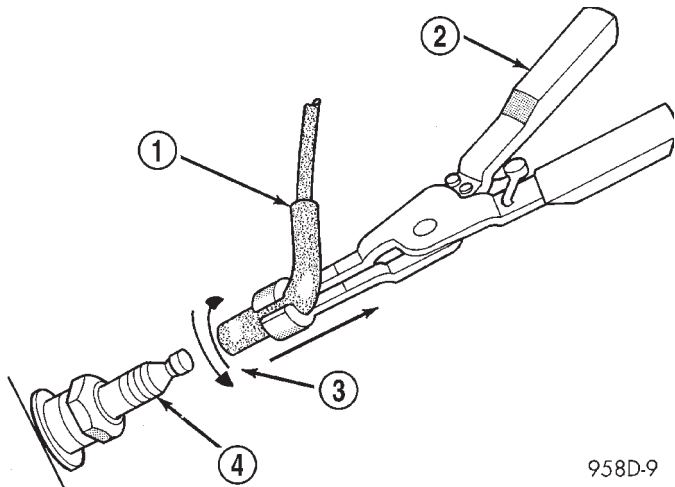

Fig. 20 Cable Removal
CAUTION: When disconnecting a high voltage cable from a spark plug or from the distributor cap, twist the rubber boot slightly (1/2 turn) to break it loose (Fig. 20). Grasp the boot (not the cable) and pull it off with a steady, even force.
(3) Remove spark plug from cylinder head using a quality socket with a rubber or foam insert. If equipped with a 4.7L V-8 engine, also check condition of coil o-ring and replace as necessary.
(4) Except 4.7L: Always remove spark plug or ignition coil cables by grasping at the cable boot (Fig. 20). Turn the cable boot 1/2 turn and pull straight back in a steady motion. Never pull directly on the cable. Internal damage to cable will result.
(5) Inspect spark plug condition. Refer to Spark Plug Conditions.